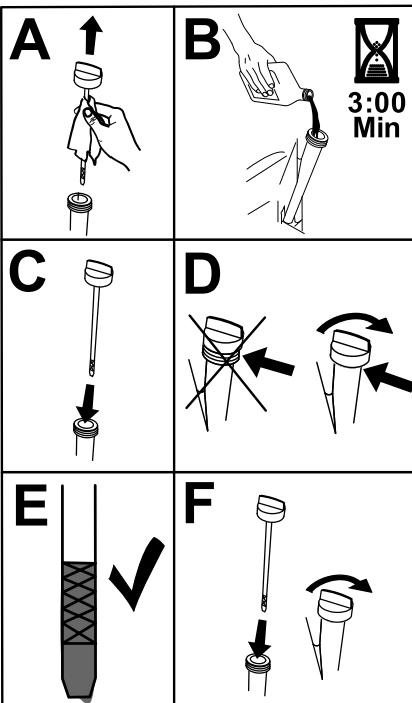

Figure 44
- Slowly pour approximately 80% of the specified oil into the filler tube and slowly add the additional oil to bring it to the Full mark (Figure 44).